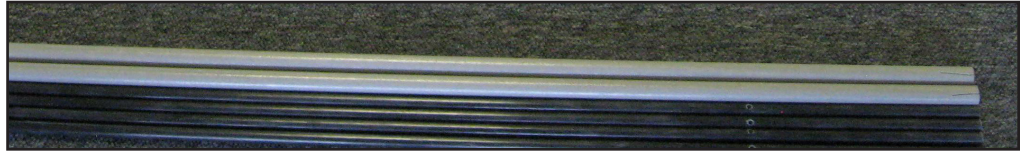

Fig. 31
- ☐ Select the four (4) 0.5" OD x 48" fiberglass rods as shown in Fig. 31.